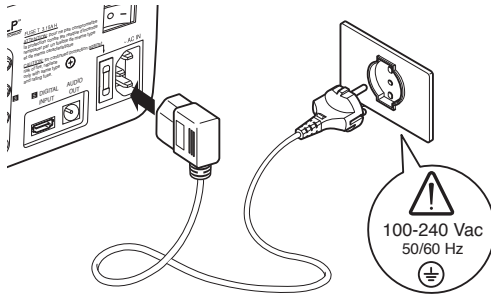

Fig. 3
- Connect the projector to a power supply with a nominal voltage within the following values: 100-240 Vac, 50/60 Hz, earthed (Fig. 3).